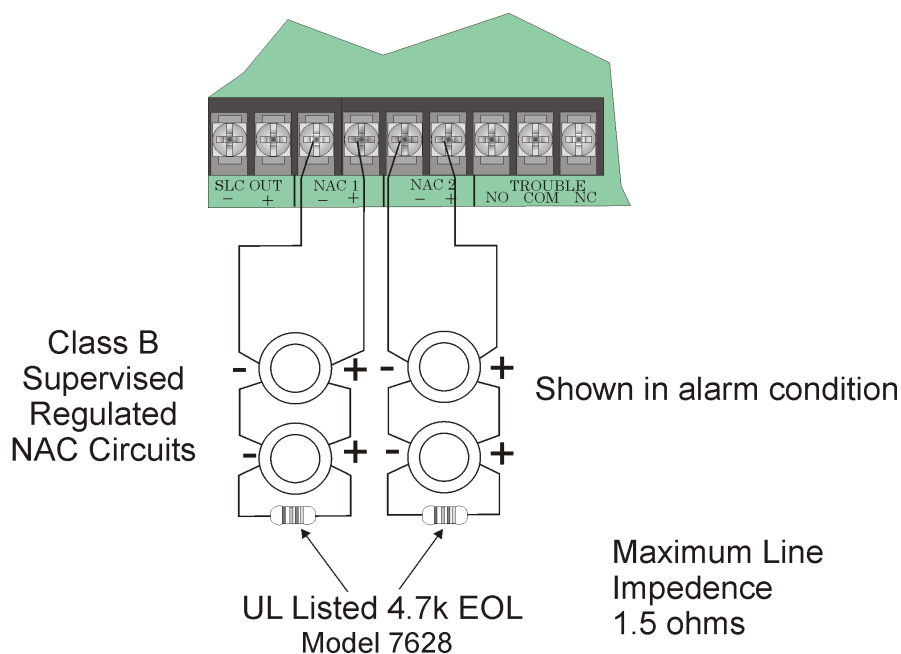

Figure 4-10 Class B Notification Appliance Circuit Wiring
1. Wire Class B Notification appliances as shown in Figure 4-10.